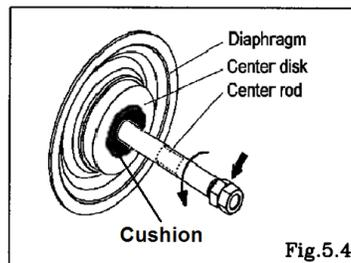

Fig.5.4
- Remove the diaphragm center disk on the opposite side using the double nut. [Fig.5.4]